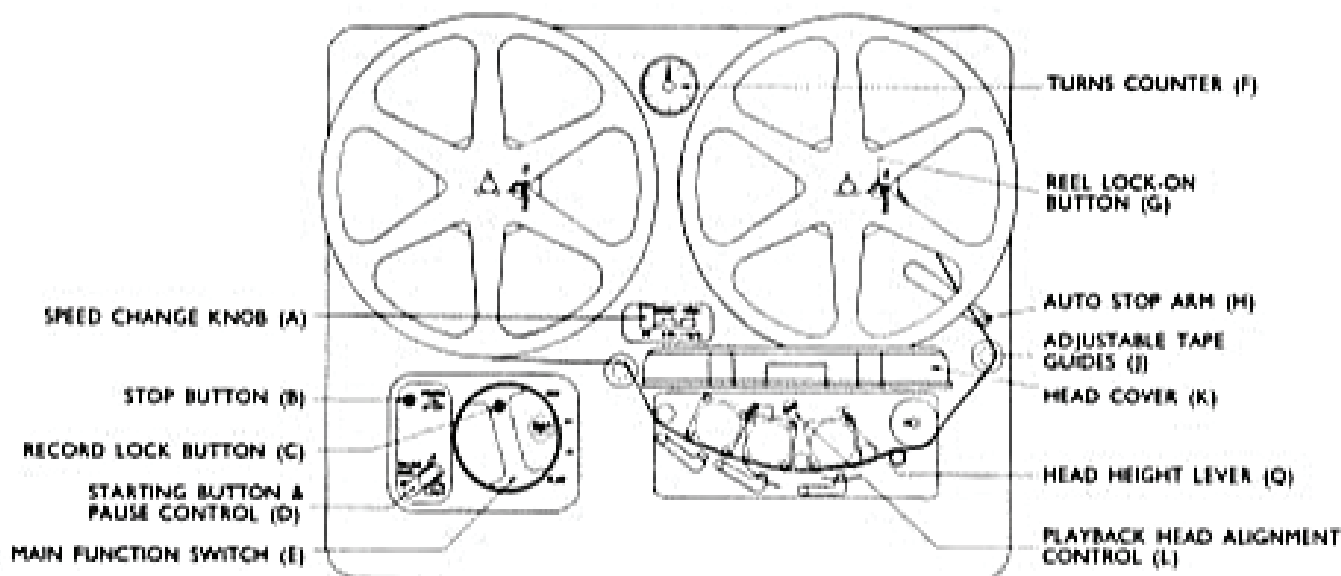

FIG. 2.
Main function switch knob (E, Fig 2) must be in one of the "fast wind" positions. Open the head cover (K), drop tape between heads, pressure pads and capstan, and position over left hand guide and between right hand guide and auto stop arm as shown in Fig. 2.
On the model 634, check that the monitor head lever, (Q in Fig. 2), is fully forward, *i.e.*, head is in "down" position.
Press the record lock button (C in Fig. 2) at the same time turning the main function switch to RECORD and set needle of peak level meter to zero by knob 11.
It is useful at this juncture to set also the turns counter (F, Fig. 2) to zero by means of its centre knob, so that the tape can be wound back to this point after recording.